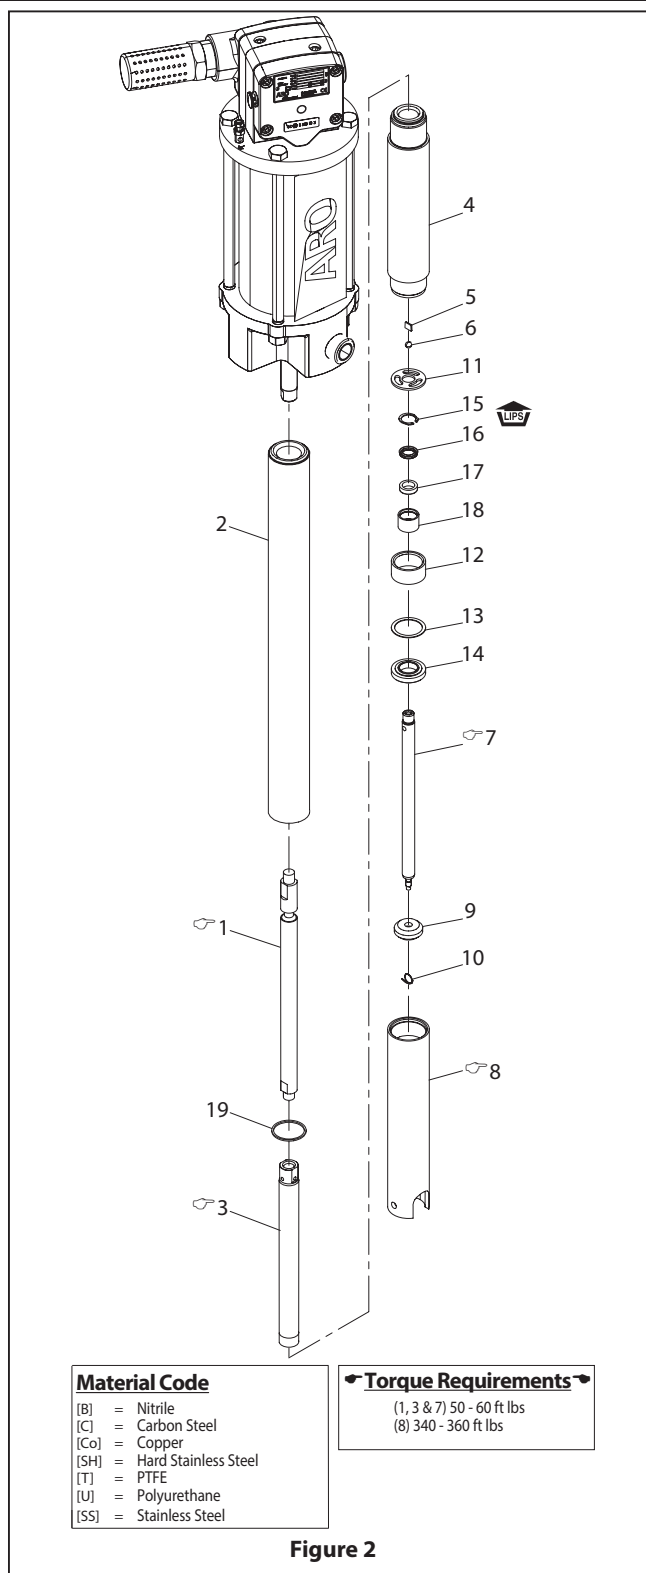

Figure 2
**NOTE: Replace all soft parts with new ones included in the repair kit.** Refer to the illustration (Figure 2, page 2) for "U" cup seal direction.